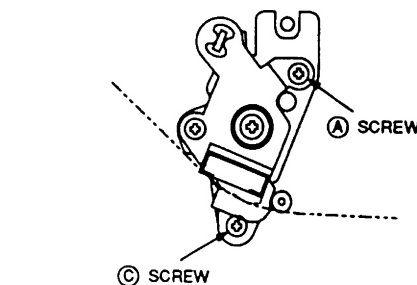
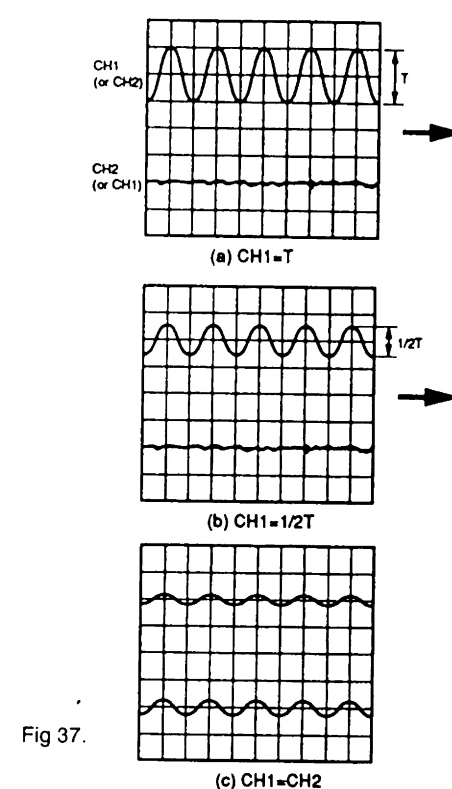

Fig 36.
Fig 37.
- 3: Turn the (C) screw to obtain 1/2 of the output level of either CH-1 or CH-2 whichever has an output signal as shown in Fig 36. and 37. Next, set both of the oscilloscope's channels to 100 mV/div and finely adjust the (C) screw until both signals of CH-1 and CH-2 are nearly the same level as shown in Fig 37.